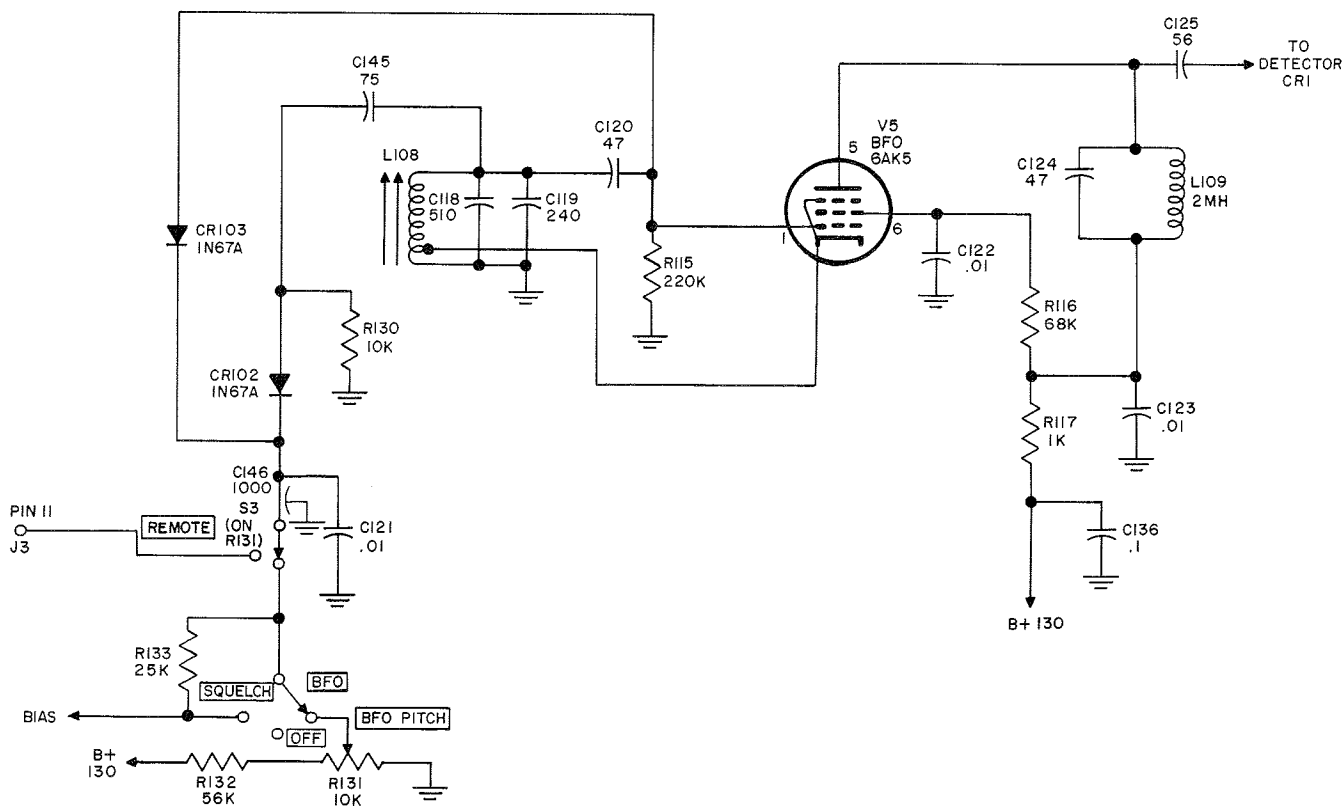

Figure 4-8. Simplified Schematic Diagram, Beat-Frequency Oscillator
4. 2. 9 BEAT-FREQUENCY OSCILLATOR. (See figure 4-8.)